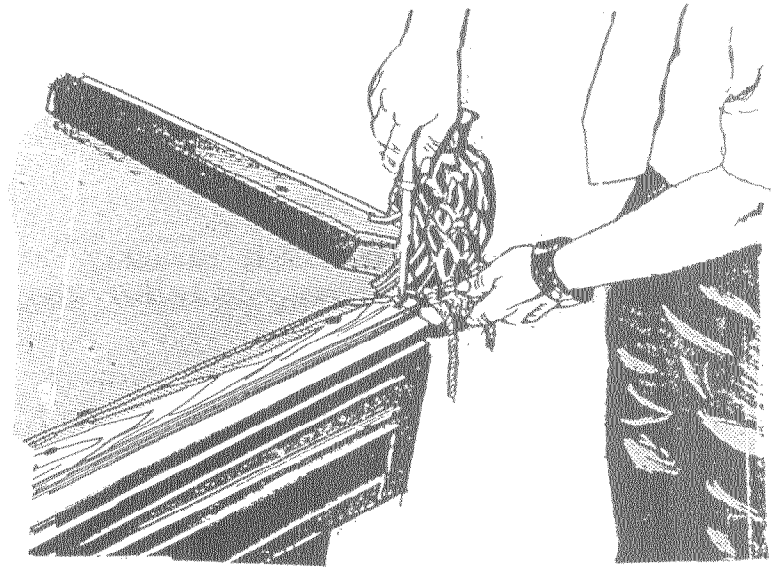

Fig. 8
19. Remove twelve (12) flat head C'Sink machine screws 5/16 - 18 x 1-1/4" long, press pocket iron tight against rail as shown in Figure 8, and insert machine screw into hole near edge of rails. Tighten all screws securely.